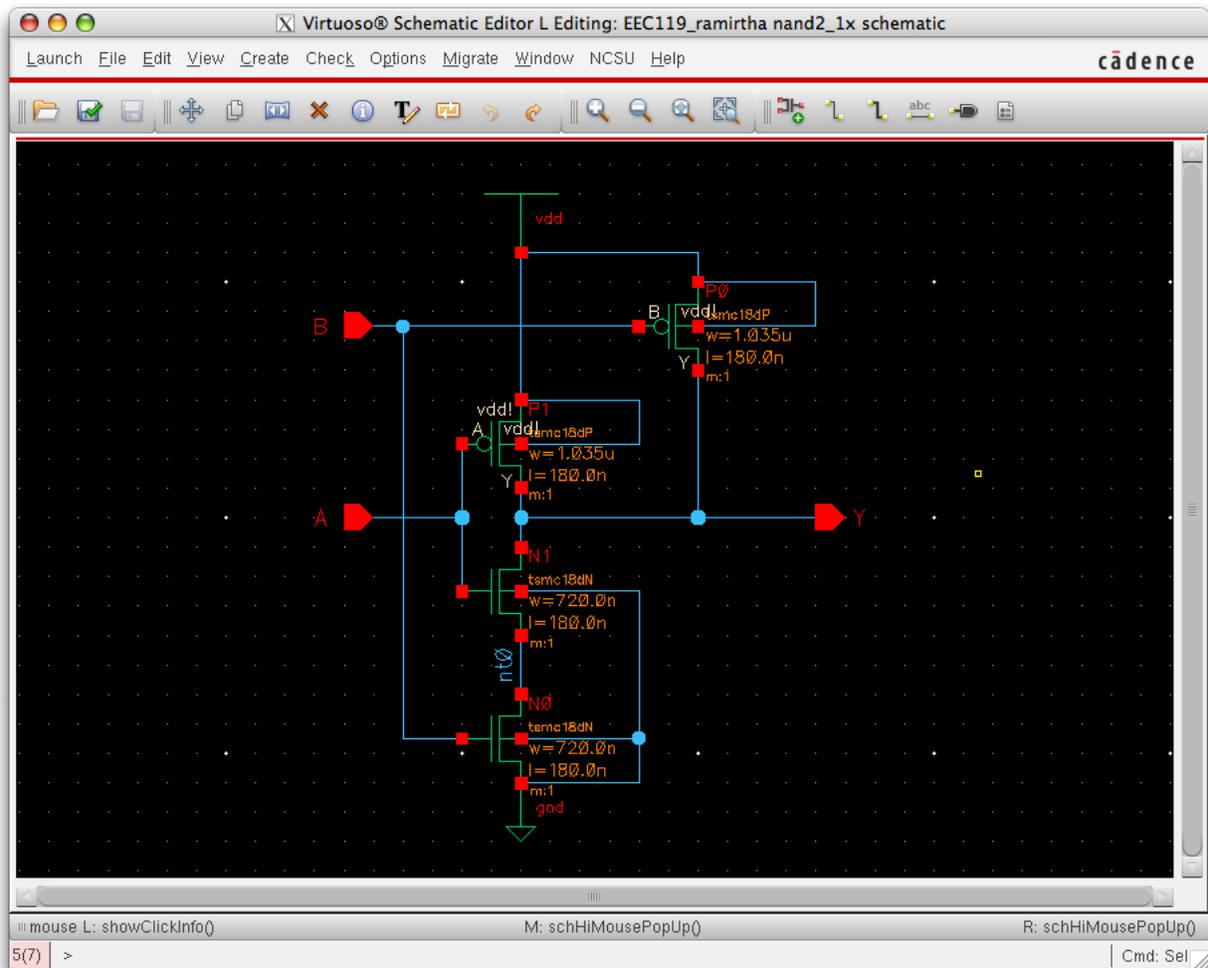

Figure 2: NAND2 gate schematic.
**Part 3 NAND Gate Schematic** Create a schematic for a two-input nand gate in a cell called `nand2_1x` in your 116 library. The final schematic should look similar to Figure 2. Note that the NMOS transistors have larger device sizes than for the inverter (i.e., the NAND gate is sized for approximately equal rise and fall times). Although pin order doesn’t matter logically, it does matter physically and electrically, so you will get errors if you reverse the order. Place the input B pin as shown in the figure. In this class, we will use the convention